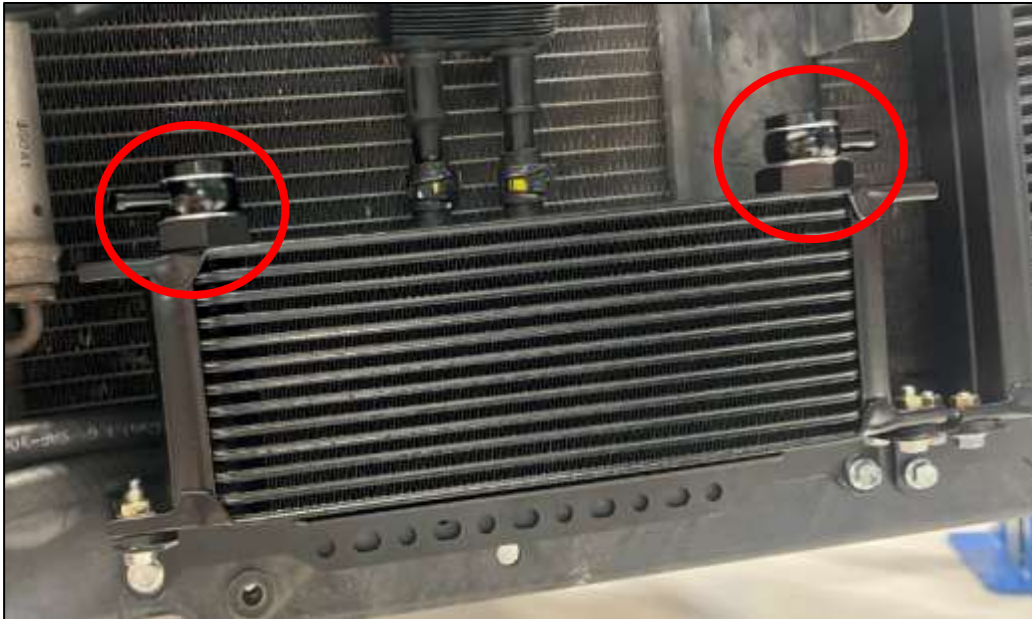

Figure 56
10. Locate (4) four M22 Aluminum Crush Washers (#10), (2) two M22 Banjo Bolts (#9), and (2) two M22 Banjo Fittings (#8). With a Crush Washer on each side, install the M22 Banjo Bolt through the M22 Barb Fitting, and thread into the open ports on top of the Procooler. Point the Barb Fittings outward towards the sides of the vehicle. They are aluminum bolts, do not overtighten them as they may break. *Figure 56.*